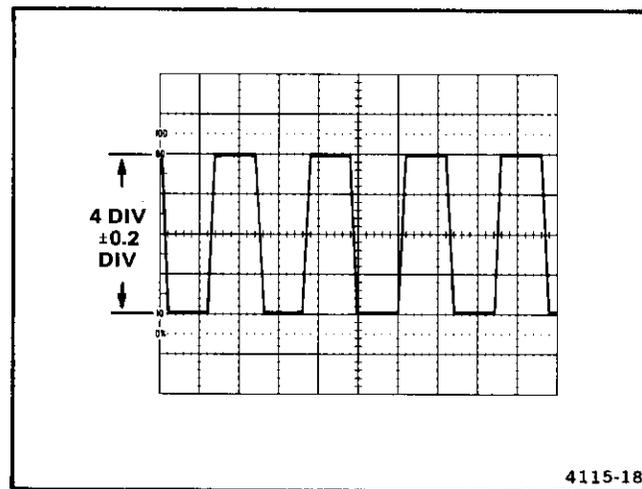

Figure 12. Vertical display accuracy.
7. Check for a vertical display amplitude of 4 divisions ± 0.2 division (3.8 to 4.2 divisions). See Figure 12.